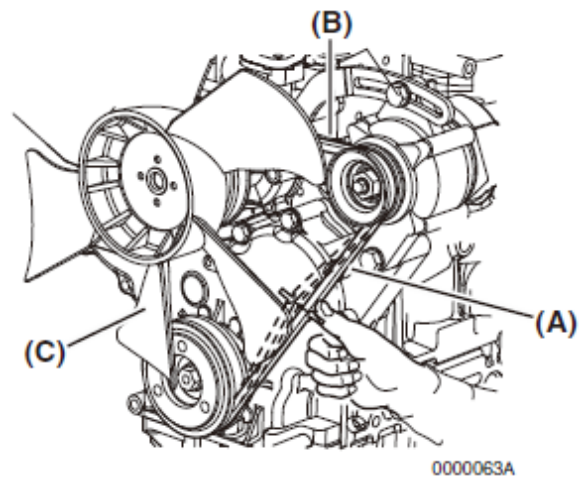
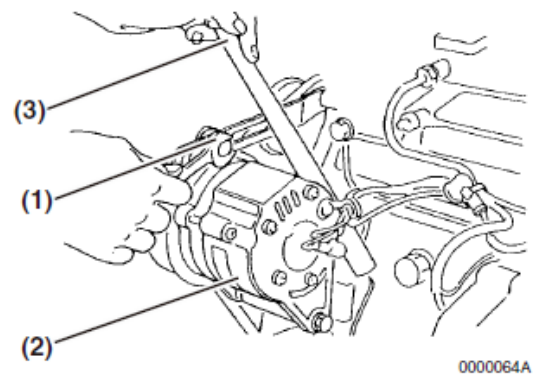

Fig.9-6
Fig.9-7
There are three positions to check for V-belt tension (**Fig.9-6, (A), (B) and (C)**). You can check the tension at whichever position is the most accessible. The proper deflection of a used V-belt at each position is:
- (A) 10-14 mm [3/8 - 1/2 in]
- (B) 7-10 mm [1/4-3/8 in]
- (C) 9-13 mm [5/16-1/2 in]
2. If necessary, adjust the V-belt tension. Loosen the adjusting bolt (**Fig.9-7, (1)**) and move the alternator (**Fig.9-7, (2)**) with a pry bar (**Fig.9-7, (3)**) to tighten the V-belt to the desired tension. Then tighten the adjusting bolt.